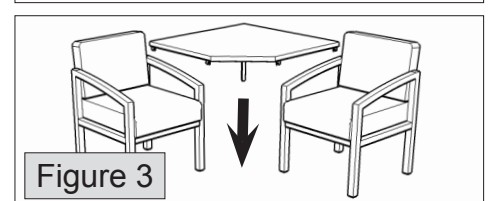

Figure 3
8. Insert bolts about halfway into bolt inserts in facing arms, as shown in figure 3 closeup.
9. Set tabletop between chairs, also as shown in figure 3. The slotted brackets slide onto the bolts from step 8.